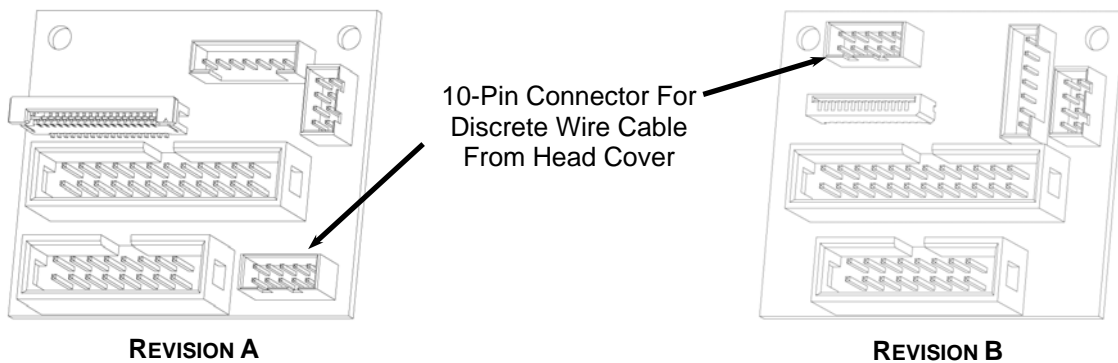

FIGURE 7: LOCATION OF CONNECTOR FOR HEAD COVER CABLE FOR THE EARLIER REVISION A AND LATER REVISION B MACHINES
- Unplug the head cover cable at the head connector board attached just to the left of the Y-drive motor pack.** The location of this connector on the connector board will vary depending on the machine's production date (See Figure 7). You may have to reach underneath the head to unplug the cable. Notice how the cable is routed along side and under the Y-truck motor pack. This routing is important to remember when re-assembling the cover.